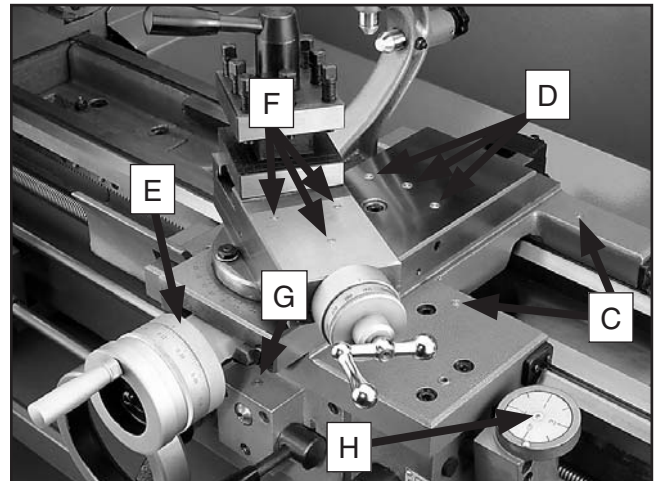

Figure 80. Carriage ball fittings.
- C. Saddle:** Lubricate two oil ports on apron top (see **Figure 80**).
- D. Cross Slide:** Lubricate three oil ports (see **Figure 80**).
- E. Cross Slide Handle:** Lubricate one oil port (see **Figure 80**).
- F. Compound Rest:** Lubricate three oil ports (see **Figure 80**).
- G. Apron:** Lubricate two oil ports. One of the ports is on top of the longitudinal handwheel (see **Figure 80**).
- H. Thread Dial Indicator:** Lubricate one oil port (see **Figure 80**).